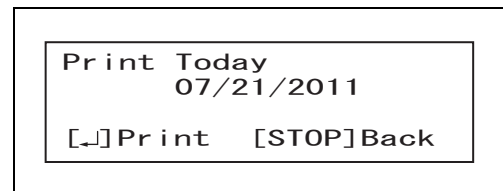

Figure 7.17
- 3 Select "Leak Test Log" "Error Log" or "Total Log" by operating the ▲ and ▼ buttons and press the ENTER button. The monitor displays the screen as shown in Figure 7.17.
- 4 Pressing the ENTER button, while the monitor is displaying the screen as shown in Figure 7.17. Printing starts.